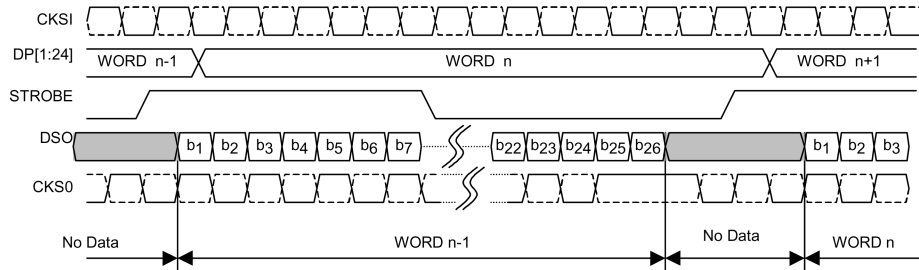

FIGURE 3. Serializer Timing Diagram Using Provided Bit Clock (No CKREF)
**Serializer Operation: (Figure 3)